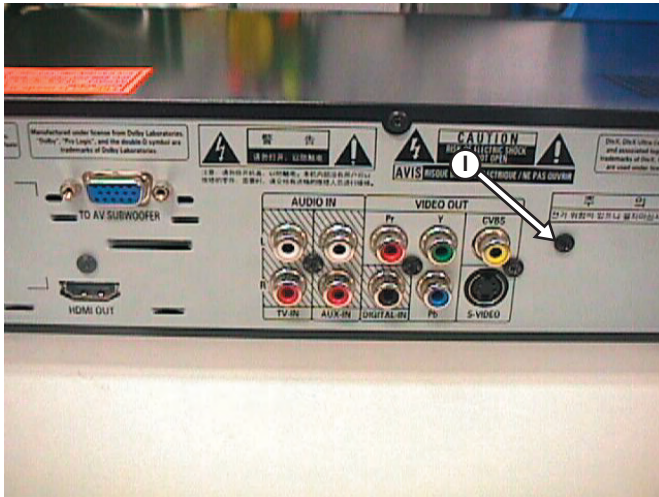

Figure 4-10
- 2) Loosen 1 screw (See Figure 4-10) to remove the Tuner Module.